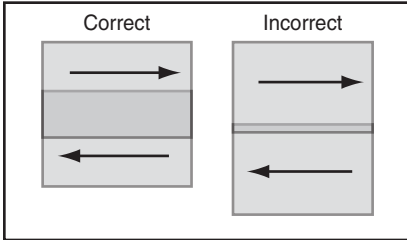

Figure 5. Overlapping technique.
14. Maintain an even speed when spraying and overlap each stroke by 50%. This will ensure even coverage, as shown in on the left of **Figure 5**. Overlapping less than 50%, as shown on the right, may lead to missed spots or streaky results.